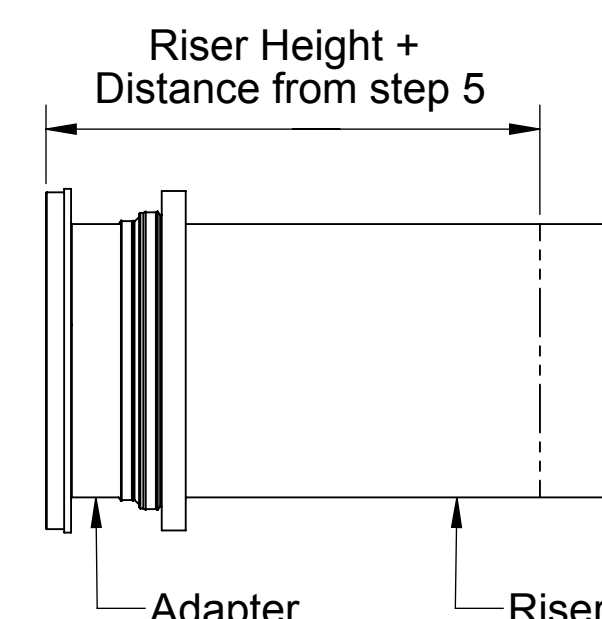

Figure 2
5. From the top of the adapter, measure your needed total riser height downward to the sidewall of the riser. Then, add 6". For example, if you have a BB-500 and need a 15-1/2" extension, you would measure down from the top of the adapter 21-1/2" (15-1/2" + 6" = 21-1/2"). See Figure 2.